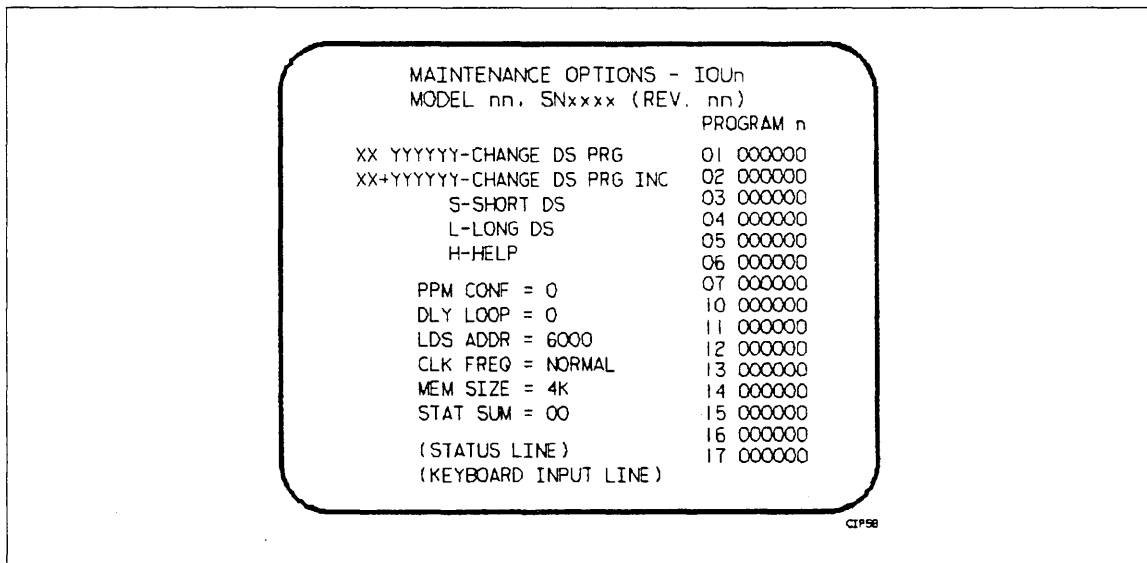

Figure 5-5. Maintenance Options - IOUn Display (CC598B Console)
- ___ a. Enter M to bring up the MAINTENANCE OPTIONS - IOU0 display (see figure 5-5).
- ___ b. Enter either 0 or 1 to bring up the MAINTENANCE OPTIONS - IOU0 or the MAINTENANCE OPTIONS - IOU1 display, respectively (see figure 5-5).
- ___ 5. From the MAINTENANCE OPTIONS - IOUn display (figure 5-5), enter either S or L to execute a short or long deadstart. After executing a deadstart, you may proceed to select appropriate options from the CTI displays.